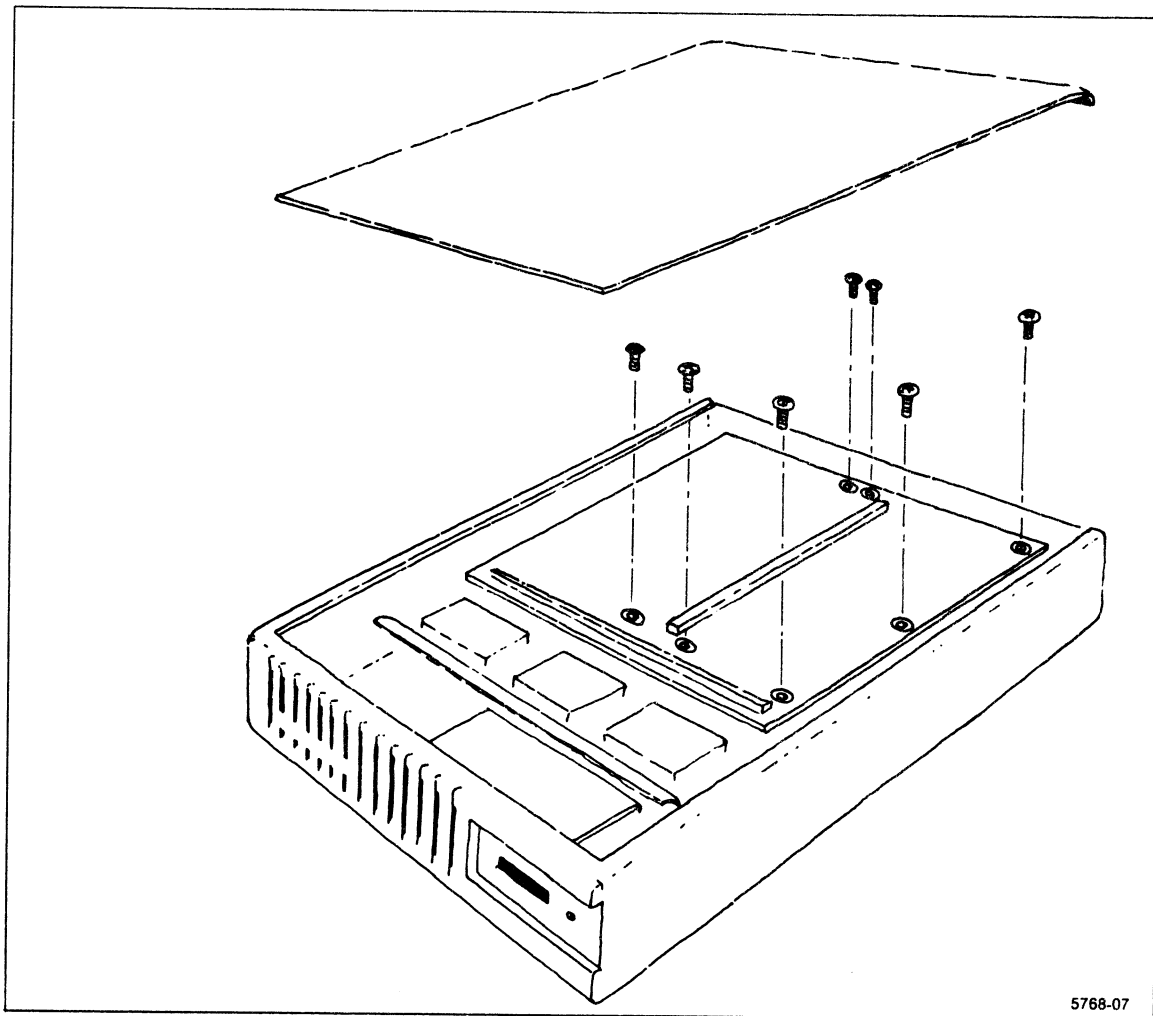

Figure B-7. Removing the screws securing the top circuit board.
4. Remove the seven screws securing the top circuit board. Refer to Figure B-7.